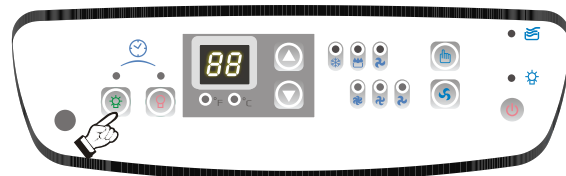
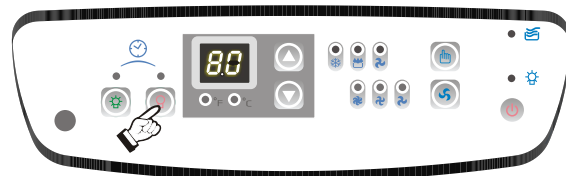

Fig. 22
Fig. 22a
- 2) Press the  key pad to initiate the **AUTO-OFF** time sequence. Fig. 22. The display window will indicate the time. Press the  keypad to select the desired **AUTO-OFF** stop time. Fig. 22a.
- 3) Press the **TIMER-OFF** key pad to initiate the **AUTO-OFF** time sequence. Fig. 22. The display window will indicate **the time**. Press the **TIMER-OFF** key to select the desired **AUTO-OFF** stop time. Fig. 22a.